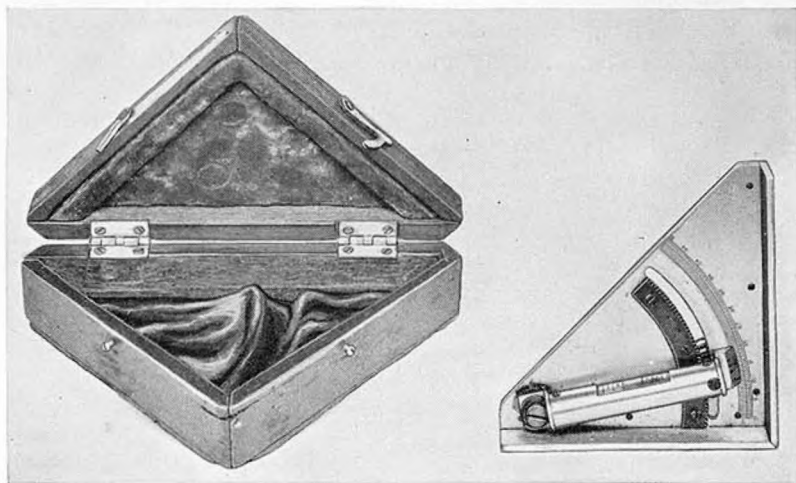

Figure 88.—Gunner's quadrant with carrying case.
(2) *Gunner's quadrant*.—The gunner's quadrant (fig. 88) used for laying-in the Model 11 (1922) 70-mm mortar is simple in construction. There is a level vial,